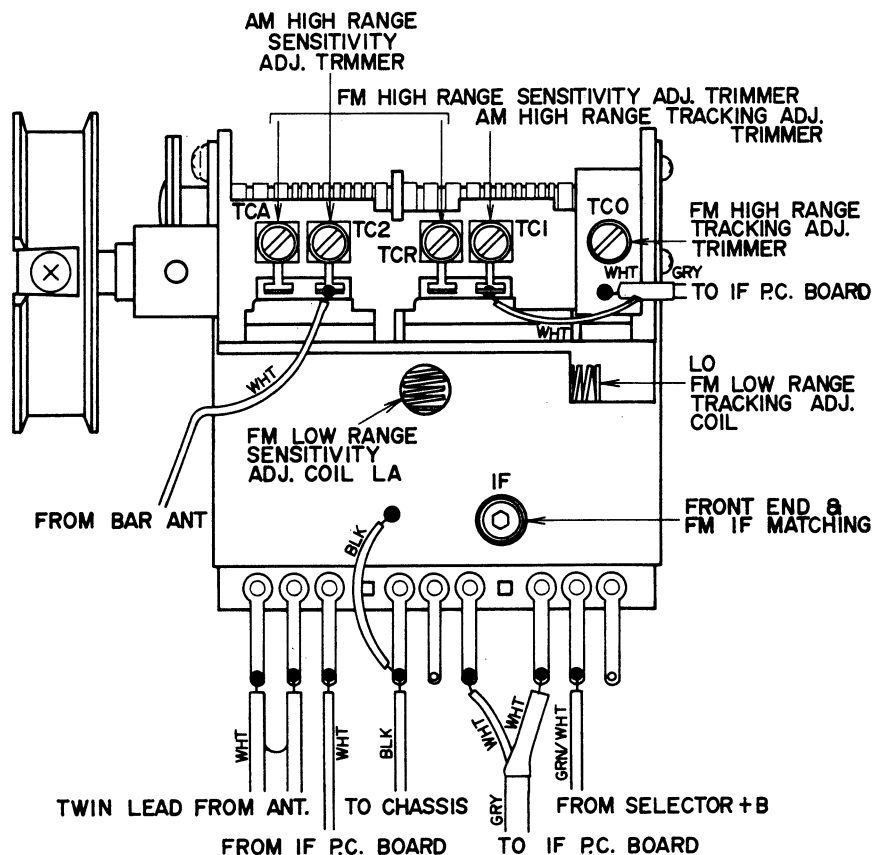

Fig. 16
- 4) Adjust the upper core of Front End IF Coil (see Fig. 16) to obtain maximum wave height value of S Curve in Fig. 8, and adjust the lower core to obtain maximum noise level.
- 4) Adjust Coil Lo of Front End (Fig. 16) until the distortion meter level is maximum and the distortion factor is minimum. (Refer to Chart 4)
- 6) Adjust Trimmer Condenser TCo of Front End (Fig. 16) until the distortion meter level is maximum and the distortion factor is minimum. (Refer to Chart 4)
- 5) Adjust Coil LR of front end (Fig. 16), until the distortion meter level is maximum and the distortion factor is minimum. (Refer to Chart 5)
- 8) Adjust Trimmer Condensers TCA, TCR of front end (Fig. 16), until the distortion meter level is maximum and the distortion factor is minimum. (Refer to Chart 5)
- 11) Adjust the upper and lower core of IF Coil in front end (Fig. 16) and the lower core of FM-AM IF & MPX P.C. Board Discriminator Coil until the distortion meter level is maximum and the distortion factor is minimum. (Refer to Chart 5)
- 6) Adjust front end Trimmer Condenser TC1 in Fig. 16 until the distortion meter level is maximum and the distortion factor is minimum. (Refer to Chart 7)
- 8) Adjust front end Trimmer Condenser TC2 in Fig. 16 until the distortion meter level is maximum and the distortion factor is minimum. (Refer to Chart 8)